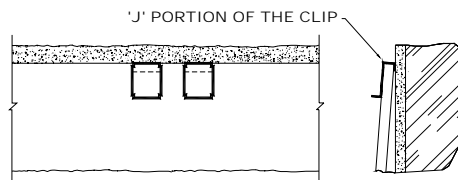

Figure 1
2. Hang the 'J' portion of the clip over the top of the edge of the first course where the end's of the next course will fall. See Figure 1.